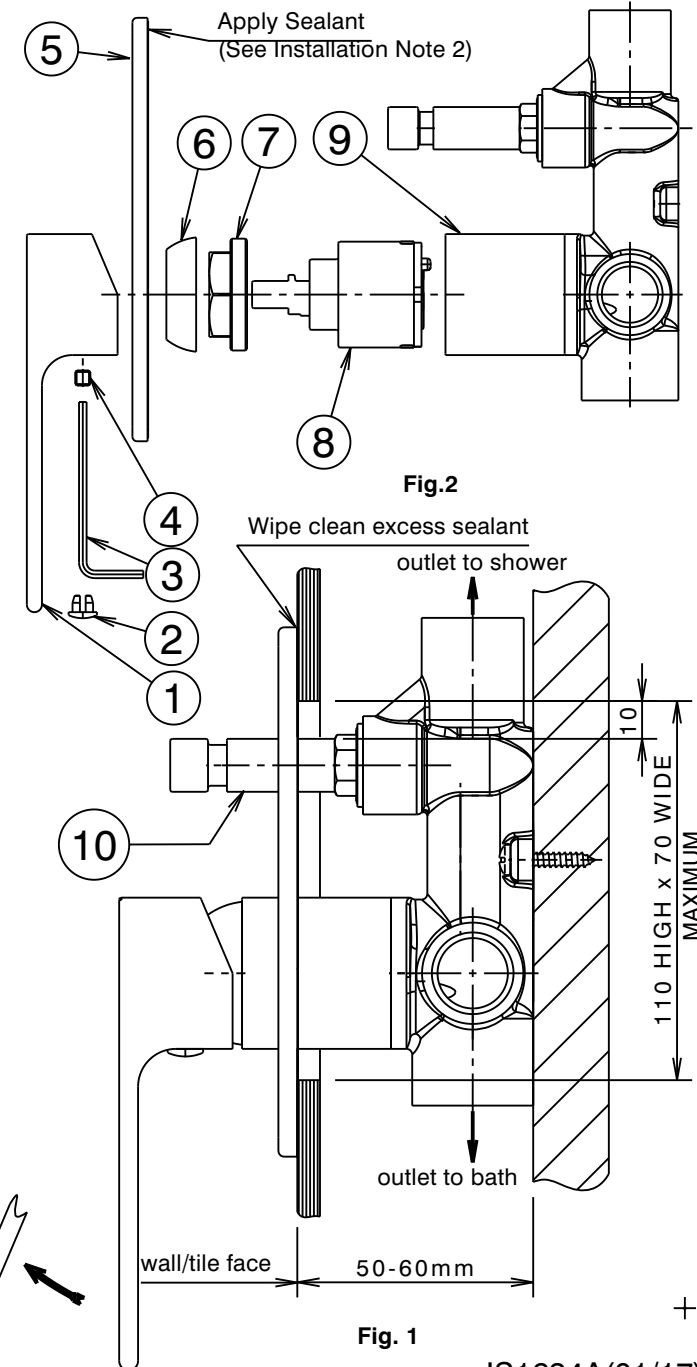

Fig. 1
Installation (Fig. 1 & 2)
- * Top face of sleeve (9) must be horizontal to ensure that wall cover plate (5) aligns with tile joints.
- 2) *Trim kit:* Apply a suitable clear sealant to the back edge of the cover plate (5), leaving an unsealed section at the bottom for drainage. Slide cover plate (5) evenly onto diverter sleeve (10) and mixer body (9) and push the cover plate (5) firmly against the wall/tile face. Wipe/clean excess sealant from the chrome surfaces & the wall/tile face (See Fig. 1). **Note:** The Diverter sleeve (10) can be turned anti-clockwise to line up with the square hole in the cover plate, if required.
- 3) Fit handle (1) taking care that it is pushed fully onto cartridge stem, then tighten grub screw (4) using the 2.5mm allen key (3). Fit plug (2), taking care not to damage the decorative finish.
- 4) Turn on Hot and Cold water supplies and check operation. **Note:** To deliver water to the shower outlet, push diverter button (10). To deliver water to the bath outlet, pull diverter button (10).